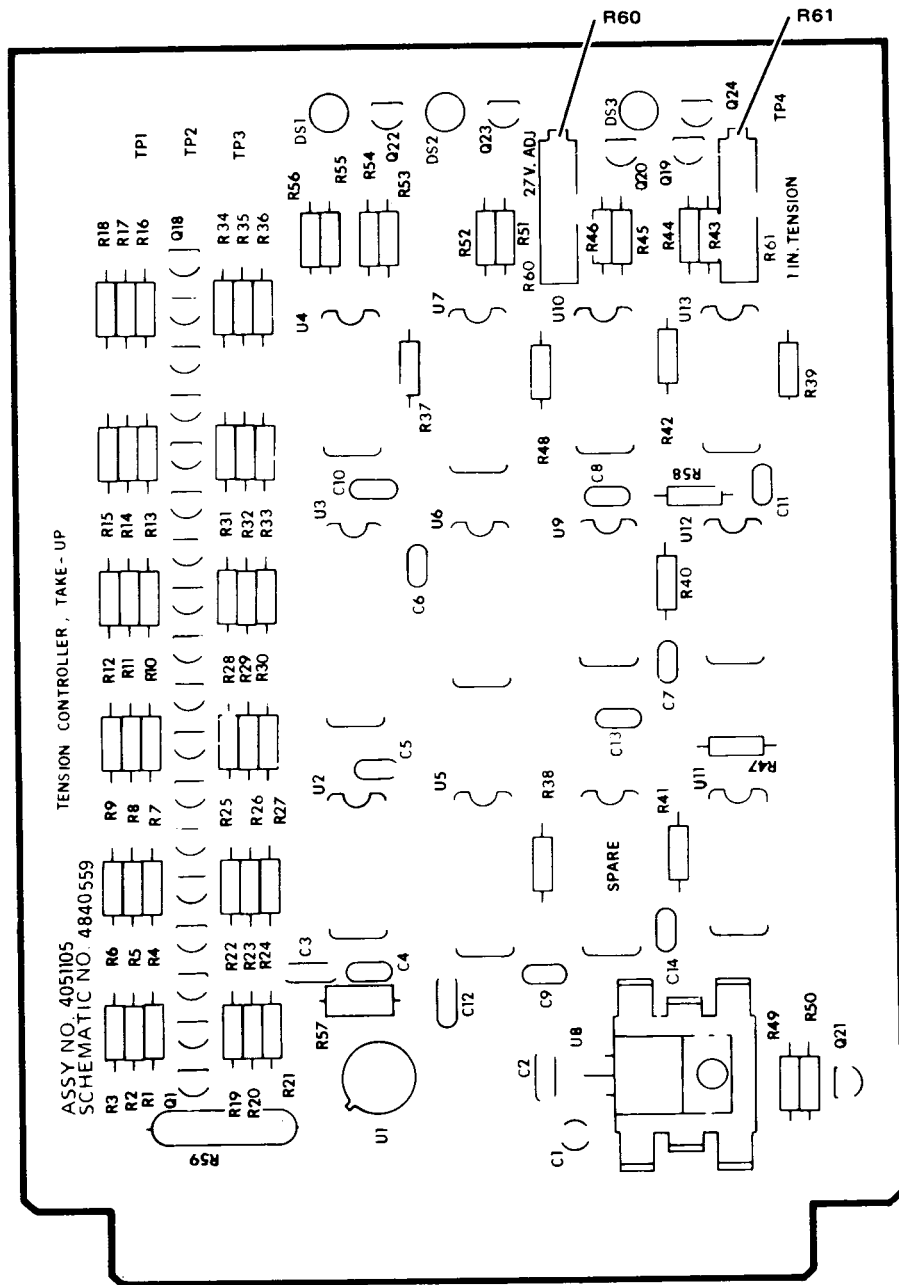

Figure 2-13. Tension Controller PWA 4051105 Adjustment Locations
10. Put machine in FAST FORWARD mode and check that voltage at TP1 on Tension Controller PWA is $27V \pm 5\%$. (See Figure 2-13.)
12. If 1-inch tape is to be used, replace 2-inch head assembly with assembly for 1-inch tape, and adjust R61 (1-inch tape) for a reading of 27V at TP1. (See Figure 2-13.)